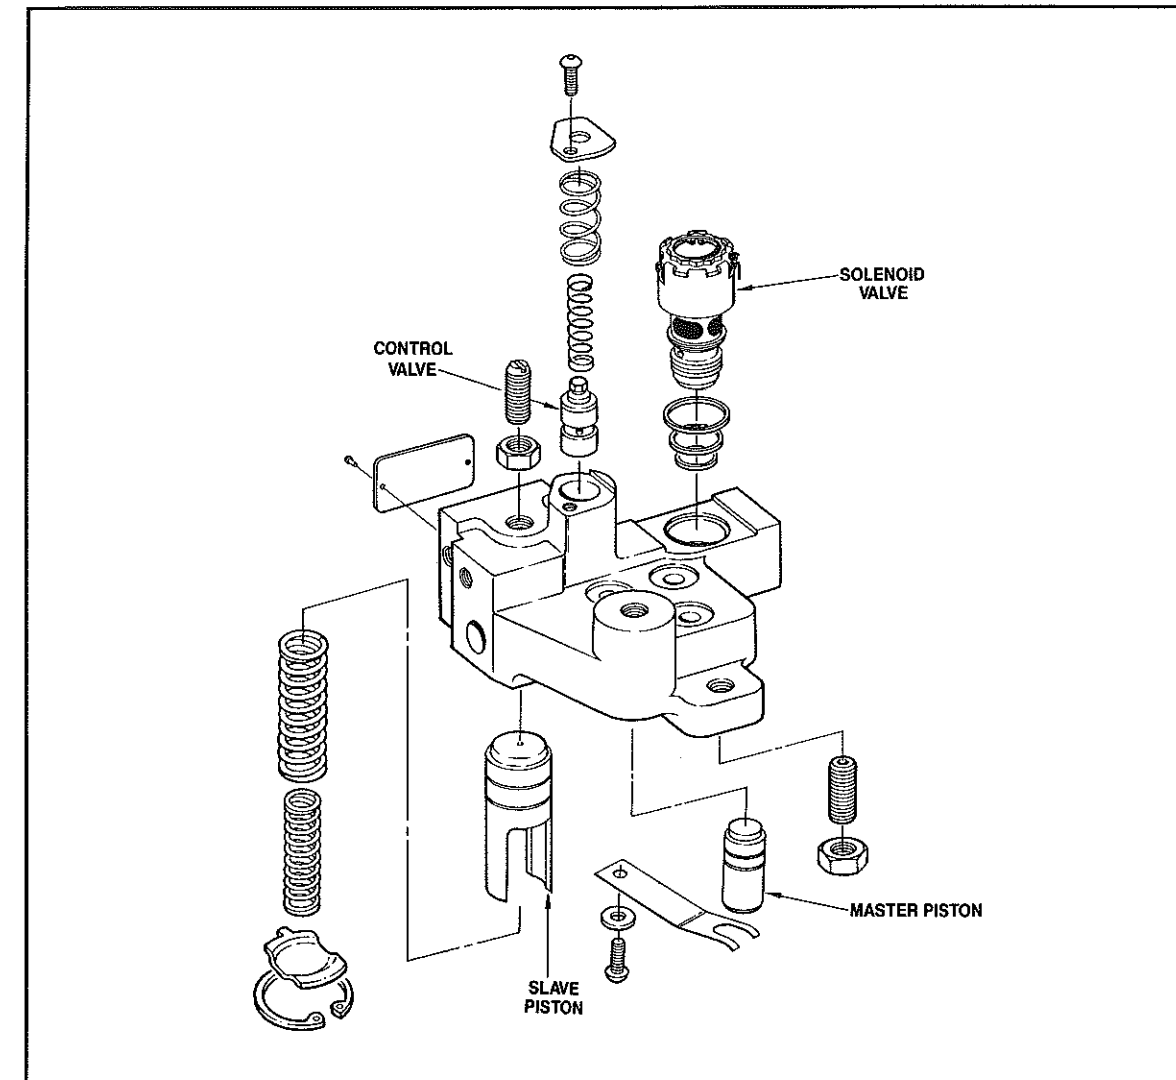

Fig. 10
3. Remove the two springs and use needle-nose pliers to remove the control valve (Fig. 10).
Be sure components are reassembled in proper order (Fig. 10).
1. Loosen the safety screw assembly locknut and remove from housing. See Fig. 10.
2. Remove master piston from its bore (Fig. 10) using needle nose pliers. If binding occurs, check for burrs or excessive wear on its outer surface. Inspect the hard face surface. Pitted, chipped, cracked or galled pistons should be replaced.